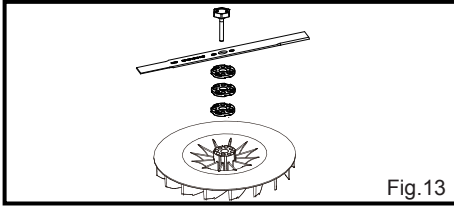

Fig. 13
Blade Maintenance (See Fig. 13)
- Wear sturdy gloves and hold the blade firmly. Loosen the bolt with the spanner provided (Fig. 13).